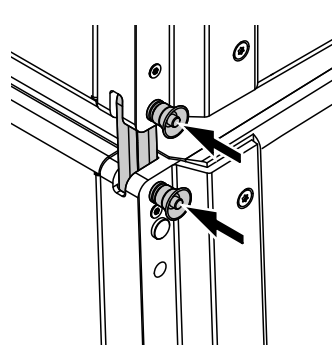

Fig. 3: SUB to SUB, 2.5° splay, free
3. SUB to SUB with 2.5° splay (free) between the cabinets (⇒ Fig. 3).